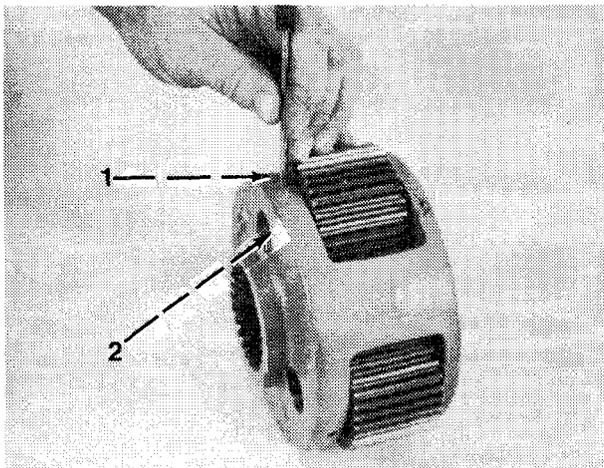

Figure 16-1
1. Drive three rollpins (1) into center of gear shafts (2, Figure 16-1).